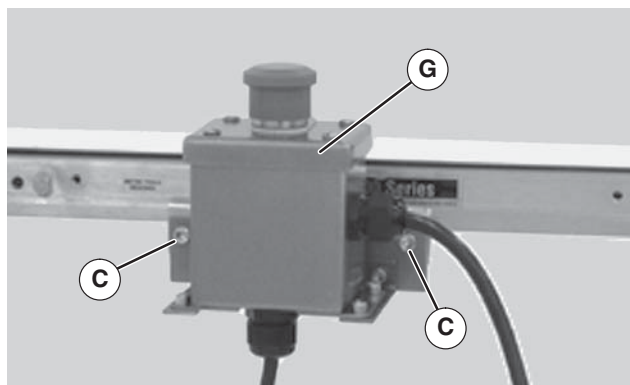

Figure 5
2. Attach Pushbutton Box assembly (Figure 5, item G) with screws (C).